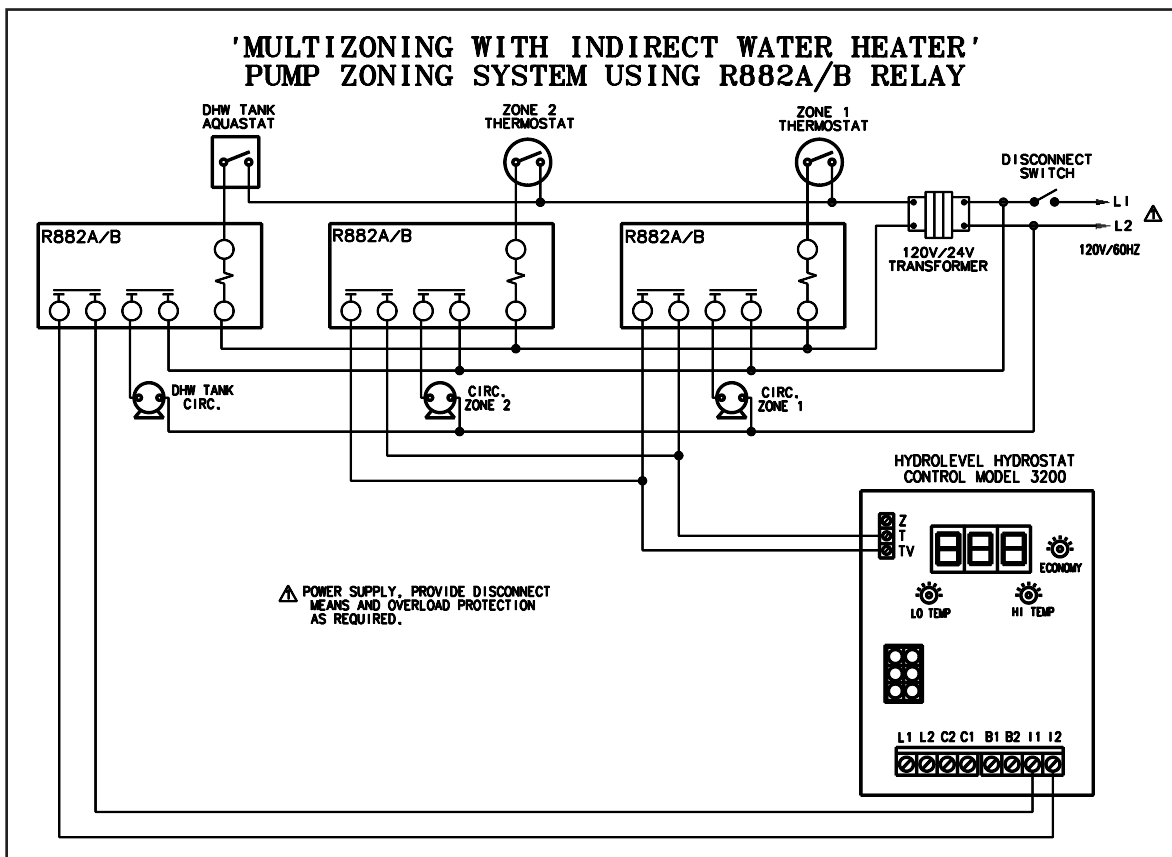

Figure 6. Multizoning of Galaxy boiler-2 zone system pump zoning system using R882A/B relays.
If system includes indirect water heater, the indirect signal must be separated from heating zones(s) system. See figure 6 and follow steps below:
- Power DHW and heating zone(s) circulators through end switch relays as shown on figure 6. Do not connect heating zone(s) circulators to C1 and C2 of the control.